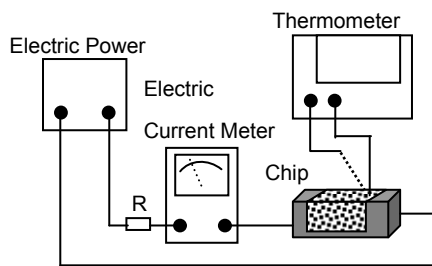

Fig. 5.3.3-1
- Definition of Rated Current (I_r): I_r is direct electric current as chip surface temperature raises just 20°C . against chip initial surface temperature(T_a). (see **Fig. 5.3.3-2**):